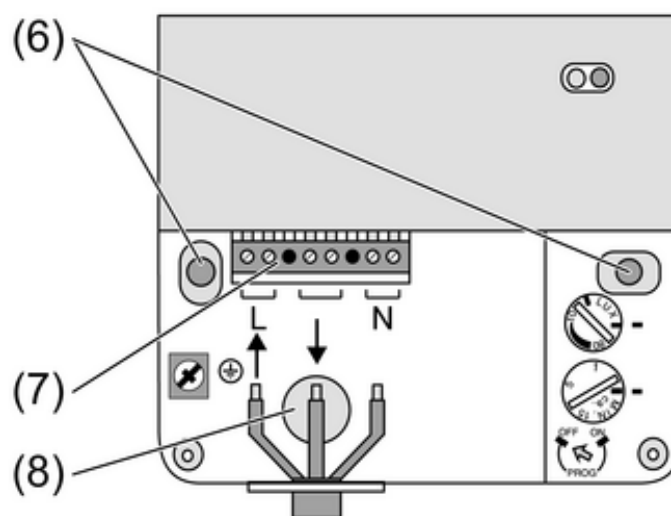

Figure 3: Installing the power pack
- If necessary break out cable entry (8) for flush-mounted cable routing (Figure 3).
- Fasten power pack with two screws (6).
- Route cables into the housing and connect to the terminals (7) (see Connecting the power pack).